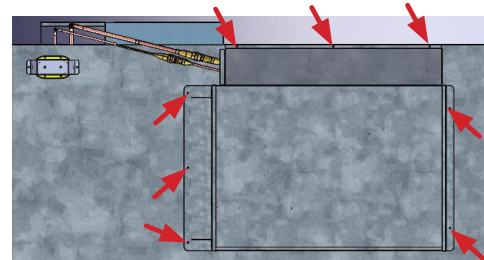
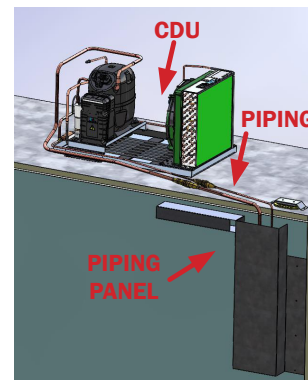

Fig. 10 CDU housing screw locations (top view)
Fig. 11 Remove CDU housing
2. On the CDU housing, there are a total of (8) screws that will need to be removed: (3) at the back, (3) on the left, and (2) at the right side (Fig. 10). Once the screws are removed, cover can be lifted and removed (Fig. 11). **Be sure to retain all screws and sheet metal removed.**